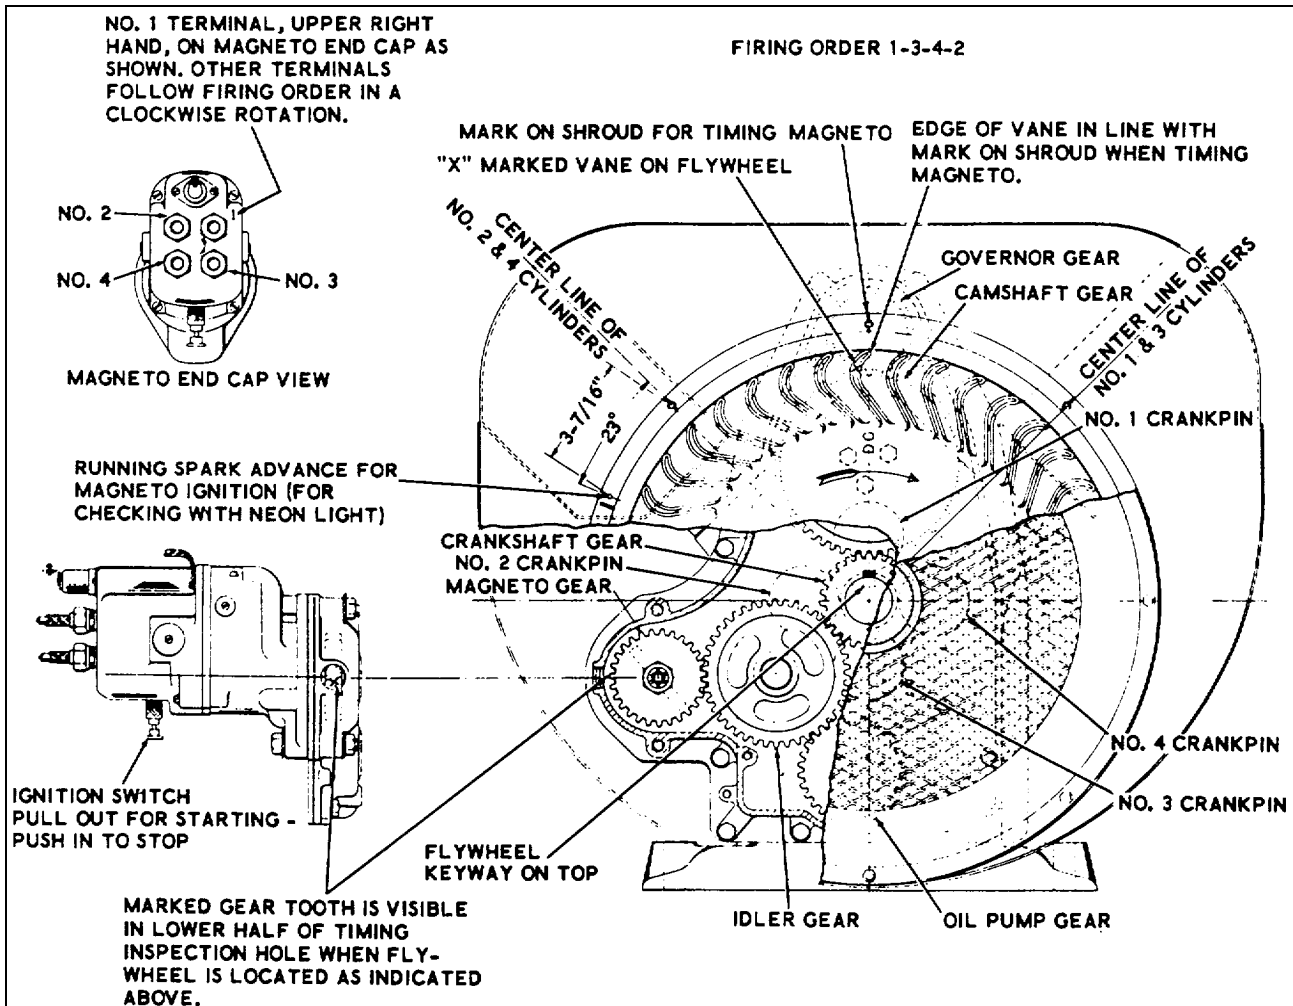

Figure 4-3. Engine Ignition Timing
a. Remove screen over flywheel air intake opening by taking out screws holding the screen in place. This will expose the timing marks on flywheel and shroud (figure 4-3).
c. The flywheel is marked with the letters DC near one of the air circulating vanes. This vane is further identified by an X mark cast on the end (figure 4-3). When air blows out number 1 spark plug hole, continue turning starting crank until edge of marked vane on flywheel is on line with mark on vertical centerline of shroud. Leave flywheel in this position. At this point, keyway for mounting flywheel is also on top.